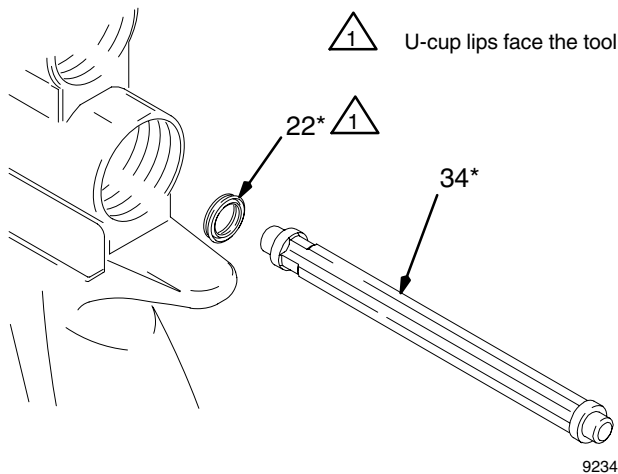

Fig. 21
2. Install the inline fluid filter (10) into the base of the fluid tube (8). Screw the fluid inlet fitting (11) into the base of the tube. Torque to 195–205 in-lb (22–23 N•m).
3. Place the new u-cup (22*) on the seal installation tool (34*), with the u-cup lips facing the tool as shown in Fig. 21. Push the u-cup into the back of the gun until a definite snap is felt.